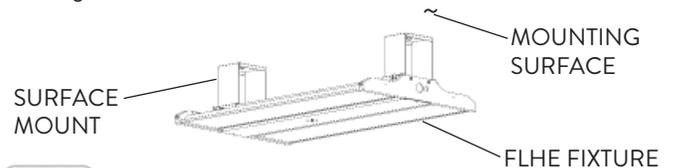

FIG. 12
- 4 This is how the properly surface mounted FLHE Fixture should look (Fig. 12).